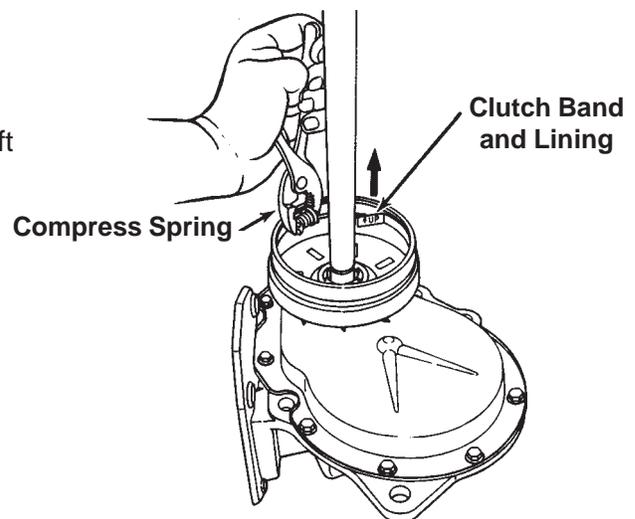

Fig. 3-24
2. To service just the clutch lining, compress the clutch spring with a pair of pliers and lift the lining from the clutch hub. (Fig. 3-24)